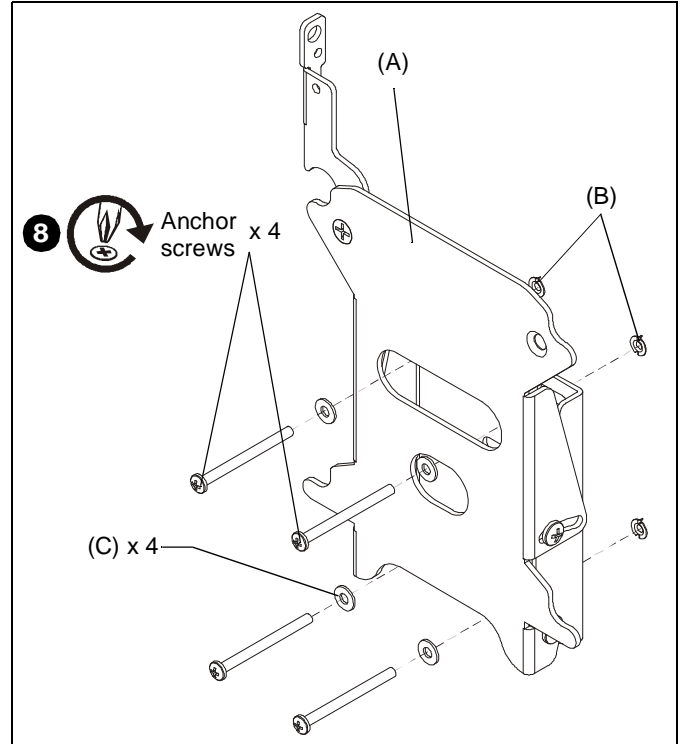

Figure 5
8. Insert anchor screws through washers (C), FPM (A) and install into collapsed anchors (B). Tighten until secure. (See Figure 5)